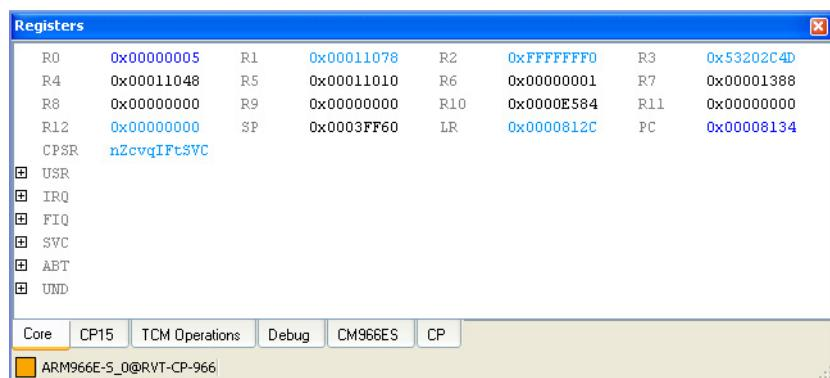

Figure 13-20 Registers changed at the previous update
- Click **Step** again and examine the register values as they change. Register values that changed at the previous update are displayed in pale blue, shown in Figure 13-20.